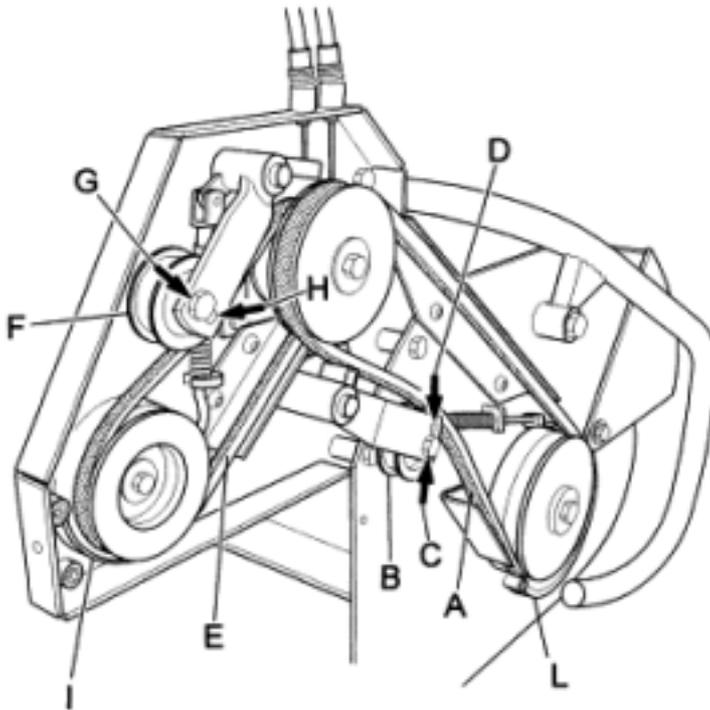

Fig. 9
- If the belt (fig. 9 ref. A) is slack and therefore unable to ensure proper drive to the flail rotor, move the tightener (fig. 9, ref. B) from the lower hole (hole C) to the upper hole (hole D).
- If the belt (fig. 9 ref. E) is slack and therefore unable to ensure proper drive to the machine forward pulley, move the tightener (fig. 9, ref. F) from the upper hole (hole G) to the lower hole (hole H).
WARNING. After having made the above adjustments check that the flail rotor brake (fig.9, ref.L) and service brake (fig. 9, rif.I) work properly, stopping roller movement and machine movement respectively.